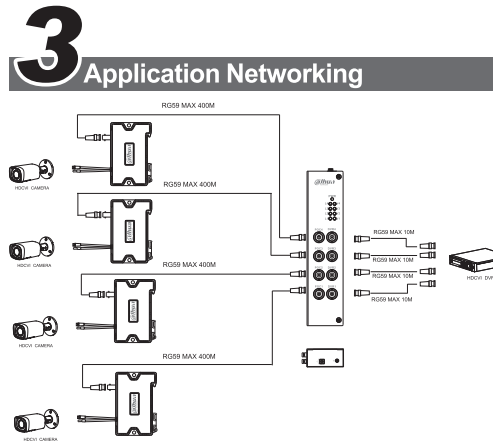

Figure 3-1 POC Application Networking
Step 1 Connect all ports of POC transmitter, as shown in Figure 3-1.